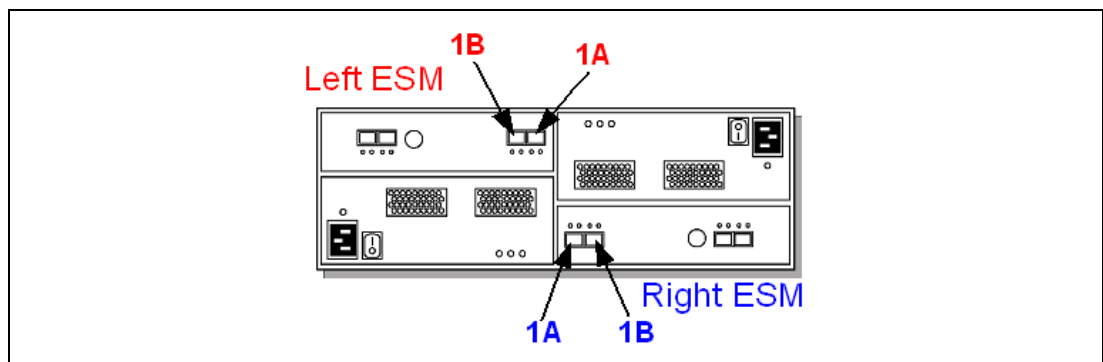

Figure 2-56 Port labels on EXP520 or EXP810
- ▶ The DS5020 controller drive port must always be connected to the EXP520 or EXP810 port labelled 1B. Because the left (ESM A) and right (ESM B) enclosure service modules (ESM) are inserted in different orientations, ensure that you use the port labeled 1B before making the Fibre Channel connection to the DS5020 storage subsystem, as shown in Figure 2-56.